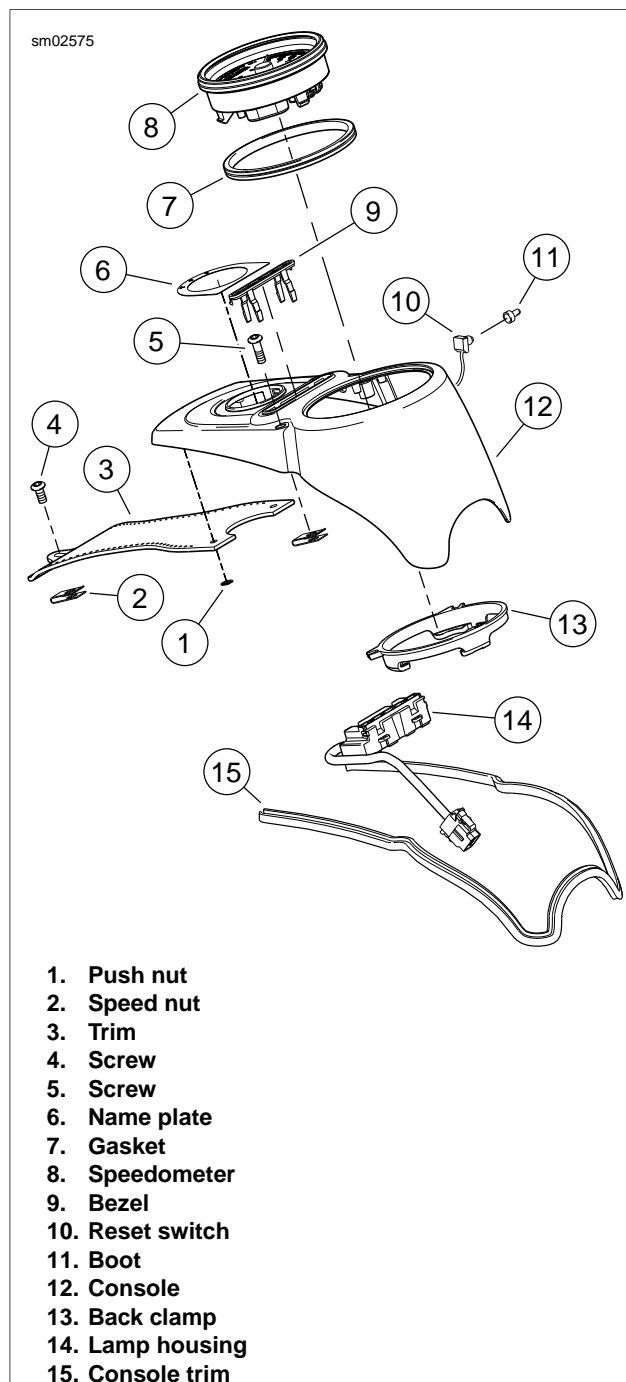

Figure 8-51. Speedometer: FXDWG/FXDC/FXDF
1. See Figure 8-51. Remove screw (4) securing trim to fuel tank. Remove screws (5) securing console to top plate.
3. Depress connector tab and disconnect 12-place harness connector [39] from speedometer (8) under console.
4. Unscrew the rubber boot (11) from the odometer reset switch (10) on the left side of the console.
6. Pry between three tabs and speedometer with a screwdriver to raise and release back clamp (13) from speedometer. Remove back clamp from speedometer.
7. Remove speedometer from console (12).
8. Remove gasket (7) from speedometer.
1. See Figure 8-51. Install gasket (7) to speedometer (8).
2. Position speedometer in console (12).
3. Press on back clamp (13) until three tabs engage on back of speedometer.
4. Insert odometer reset switch (10) through hole in console and install rubber boot (11).
6. Install console to fuel tank with screws (5). Tighten to 18-24 **in-lbs** (2.0-2.7 Nm).
7. Install screw (4) securing fuel tank trim (3) to fuel tank. Tighten to 18-24 **in-lbs** (2.03-2.71 Nm).